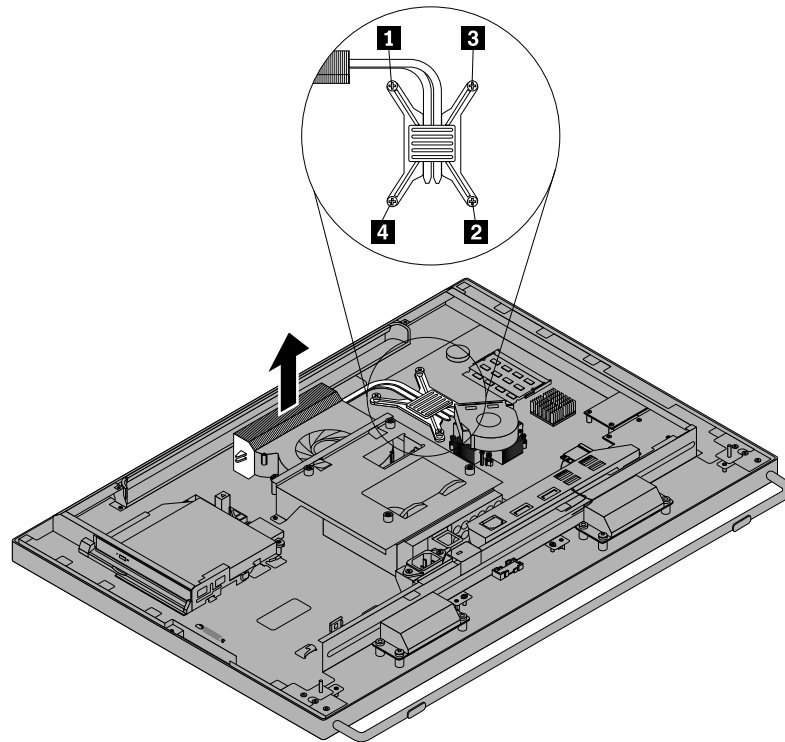

Figure 26. Removing the heat sink
8. Follow this sequence to install the four screws to secure the heat sink, as shown in Figure 26 “Removing the heat sink” on page 47.